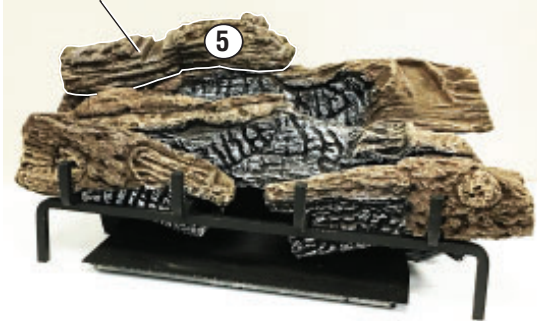

Figure 60 - Installing Log # 5
- Place the left top back log (#5) on top of the rear log. Match the rectangular projection on top of the left side of the rear log with the rectangular hole on the bottom of the left top back log. Match the metal pin on the top of the rear log with the round hole in the bottom of the left top back log. See **Figure 60**.